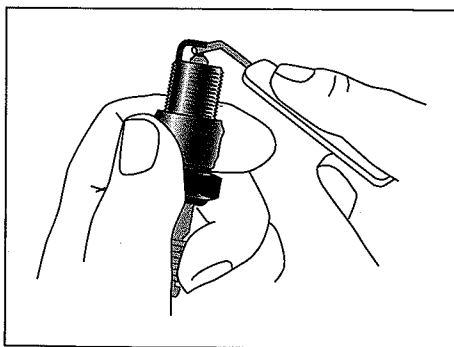

Figure 12-12:
2. **Take your feeler gauge, select the proper wire, and run it between the electrodes (see Figure 12-12).**